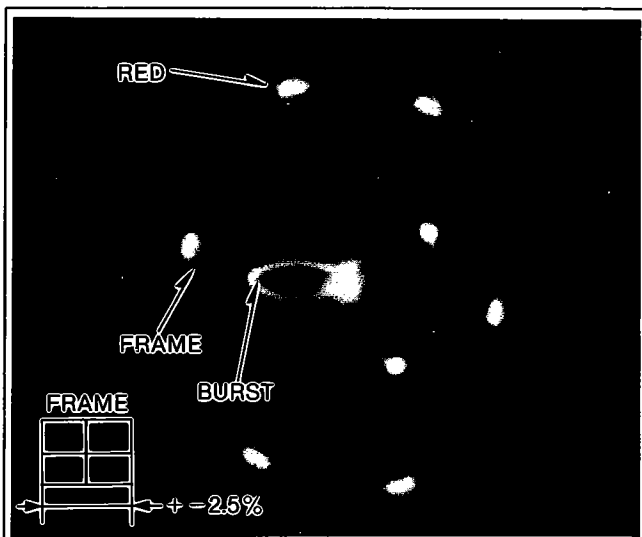

Figure E28
4. Turn on the TBC SW and adjust VR9003 until the red vector is ± 3 degrees of TBC SW OFF. See Figure E28.